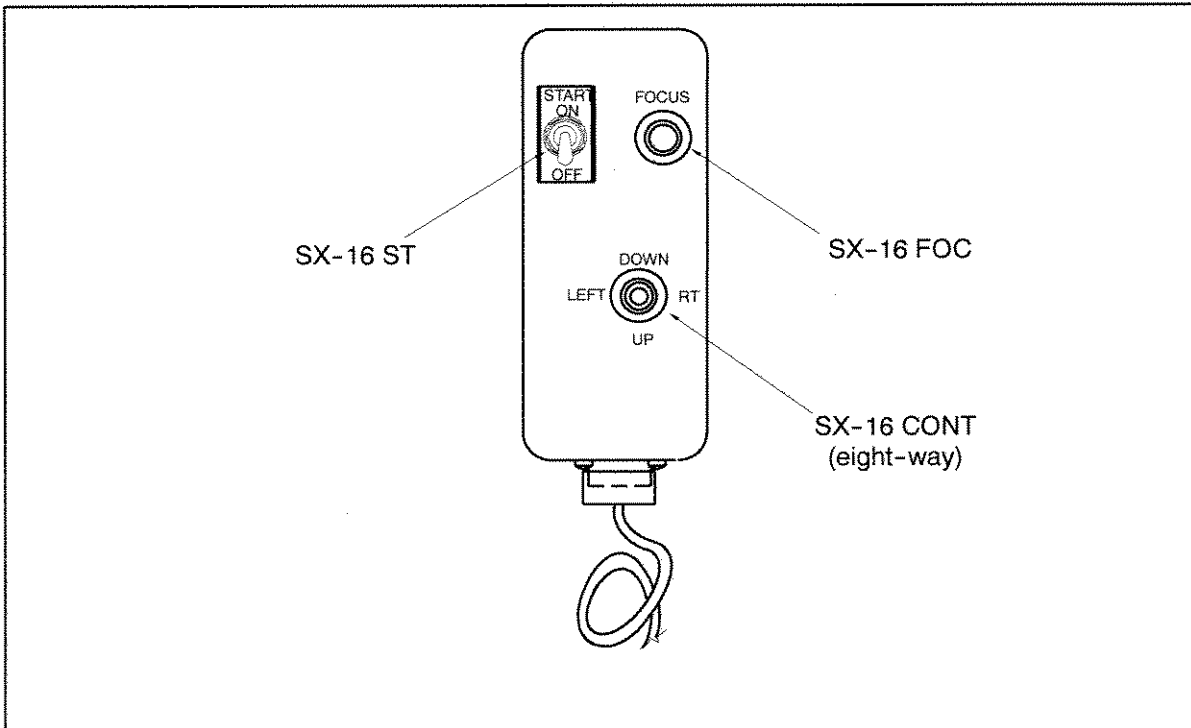

Figure 2 Operator Hand Control
(a) Operator Hand Control - (refer to Figure 2)
(1) Switching System ON
- (a) Operator Hand Control - (refer to Figure 2)
(2) Focus and Positioning
(3) Switching System OFF